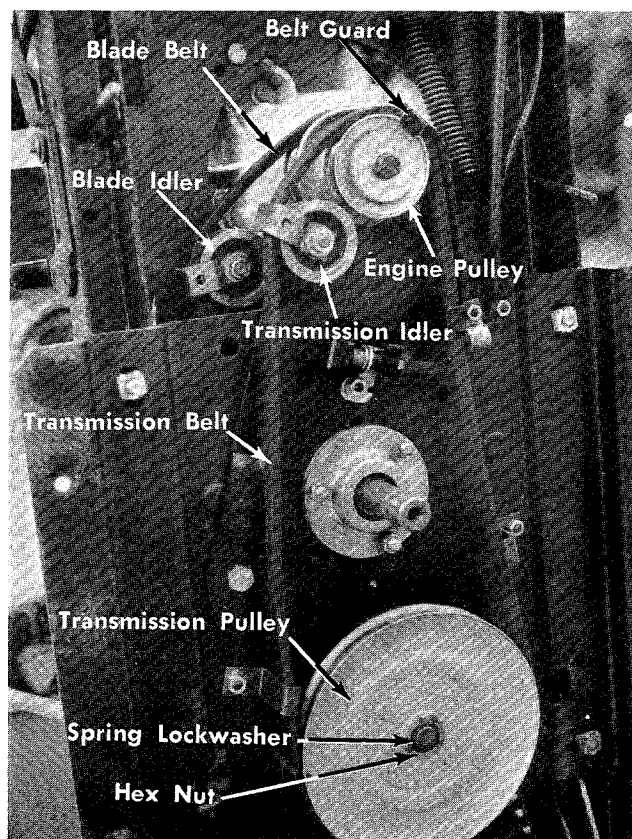

FIGURE 23. BELT SYSTEM
Step 4. Remove the transmission belt from the engine pulley. It may be necessary to spring the belt guard out of the way. When installing the new belt be sure to put the belt guard back in the original position. See figure 23.
Step 6. Remove hex nut and spring lockwasher on the transmission pulley and slide the pulley out until the belt can be removed. See figure 23.
Step 4. Remove the transmission belt from the engine pulley. See figure 23.
It may be necessary to spring the belt guard out of the way. When installing the new belt be sure to put the belt guard back in the original position. See figure 23.
CREEPING OR BELT WEAR. See figure 23.
DRIVE PULLEYS. See figure 23.
BELT WEAR—Belt Guards and Clips. See figure 23.
CREEPING. See figure 23.